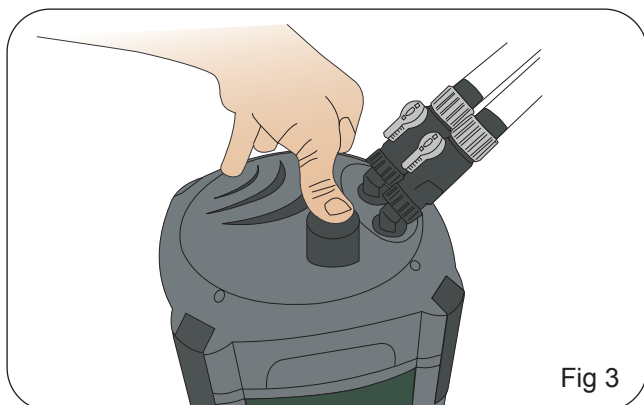

Fig 3
3. Replace the filter baskets in the filter following the order shown on page 3. Ensure the filter baskets are sitting flat on top of each other and the filter inlet pipe has the black sealing O-ring at the top of it Fig 3. Ensure the filter grid is placed back on top of the last filter basket. This is very important.
13. Turn the head unit over and turn the impeller locking cover anti clock wise and remove it. Fig 3